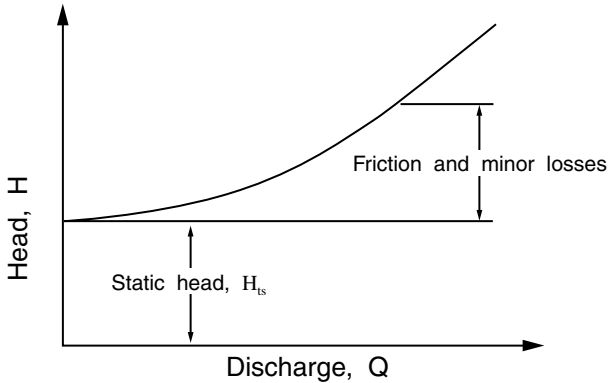

FIGURE S-17 System head curve.
**System characteristic curve** A graphical representation of the system head in a pumping installation as a function of static head and discharge. *See* Figure S-17; system head curve.
**Système International (SI)** A decimal system of units used in scientific work and commercially throughout the world; based on the meter as unit of length, the second as unit of time, and the kilogram as unit of mass: 1 m = 100 cm = 1000 mm = 0.001 km = 3.281 ft; 1 kg = 1000 g = 0.001 metric ton = 2.2046 lb. Other basic SI units include the ampere (A) for electric current, the kelvin (K) for temperature, the mole (mol) for amount of matter, and the candela (cd) for luminous intensity. SI also has supplementary, additional, and derived units for acceleration, angles, force,
**System head** The total head (or total dynamic head) against which a pump or system of pumps works. It is the sum of the static and dynamic heads. See also Equation S-48; Figure S-17; system head curve.
where  $f$  = Darcy–Weisbach friction factor,  $L$  = pipe length,  $d$  = pipe diameter, and  $k$  = minor loss coefficient. See Figure S-17.